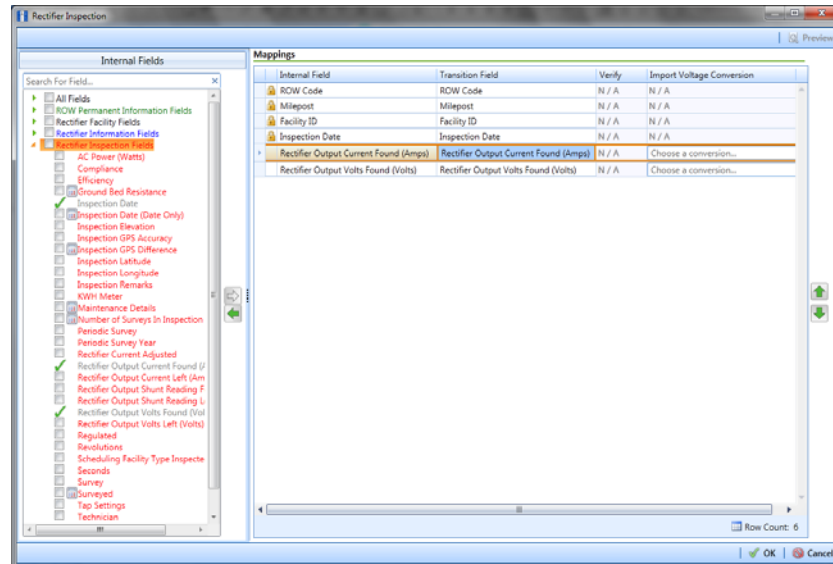

Figure 9-24. Export Field Selections
- b Click the toggle arrow  for a field category listed in the *Internal Fields* panel to view a list of available fields. In the following example, *Rectifier Inspection Fields* is selected (Figure 9-24).